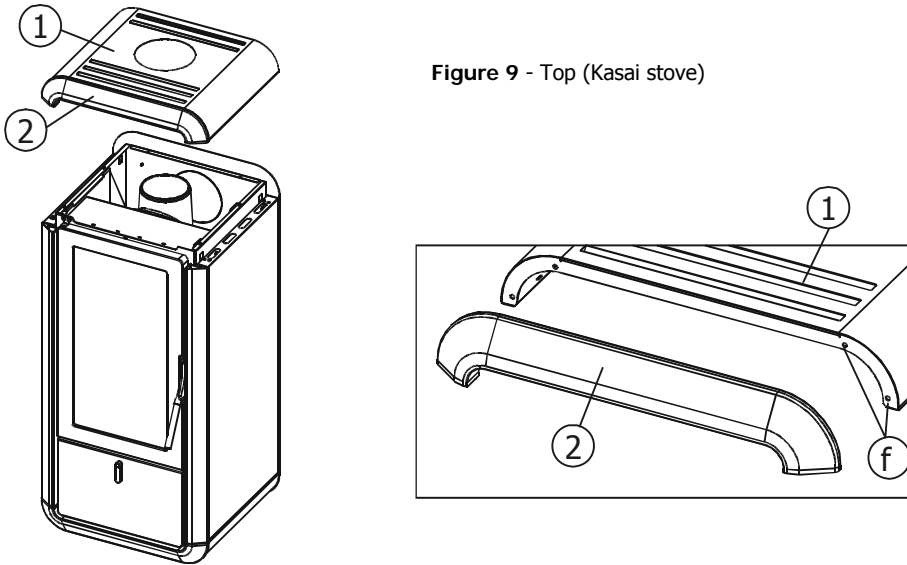

Figure 9 - Top (Kasai stove)
5. Fix part "2" to the top "1" using four trilobe screws, figure 9.